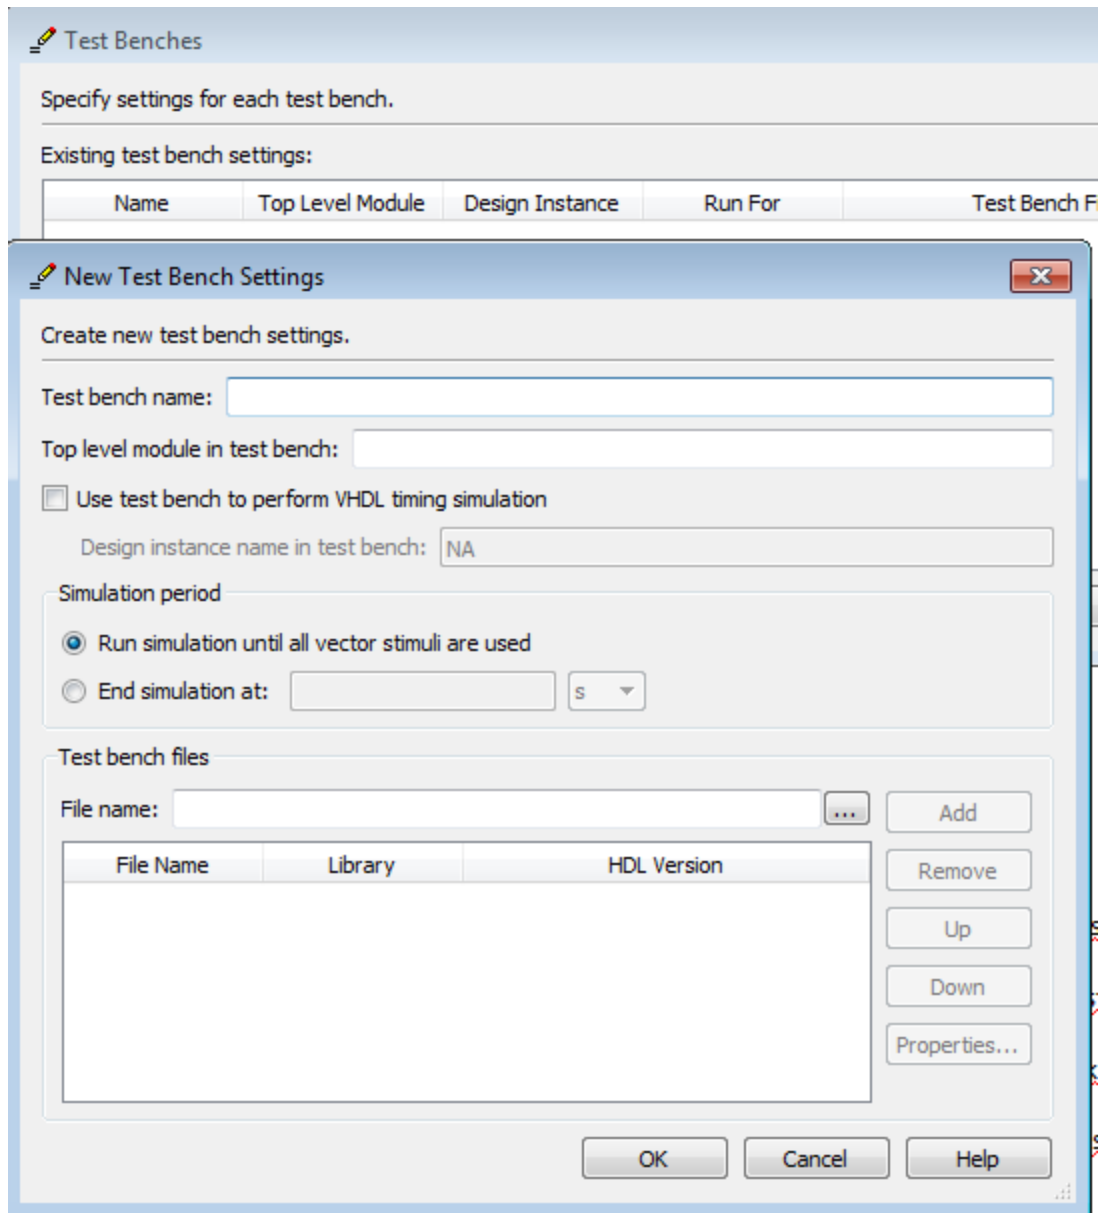

Figure 4
- d. **New Test Bench Settings** window opens up as shown in Figure 4